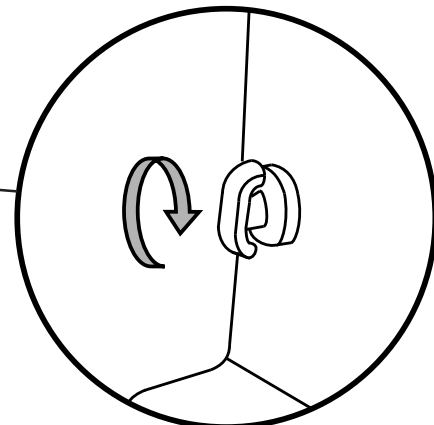

Fig. 7A
14. Screw the T-Anchor onto the weld stud using light pressure to get threads started. Once started, you should pull out lightly while tightening. Ensure T-Anchor is in the up/down position when tight. (Fig. 7A)